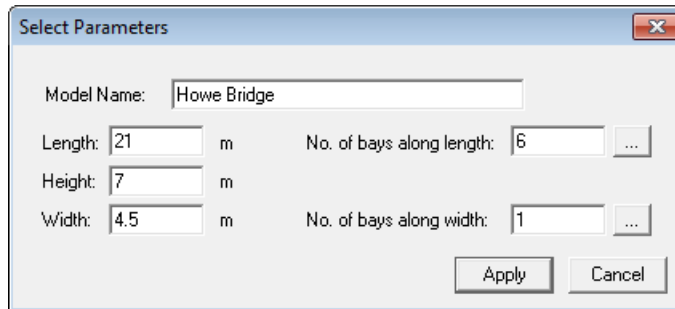

Figure 2-55 The Select Parameters dialog box
Step 4: In this dialog box, specify the length, width, height, and number of bays parameters, as shown in Figure 2-55.